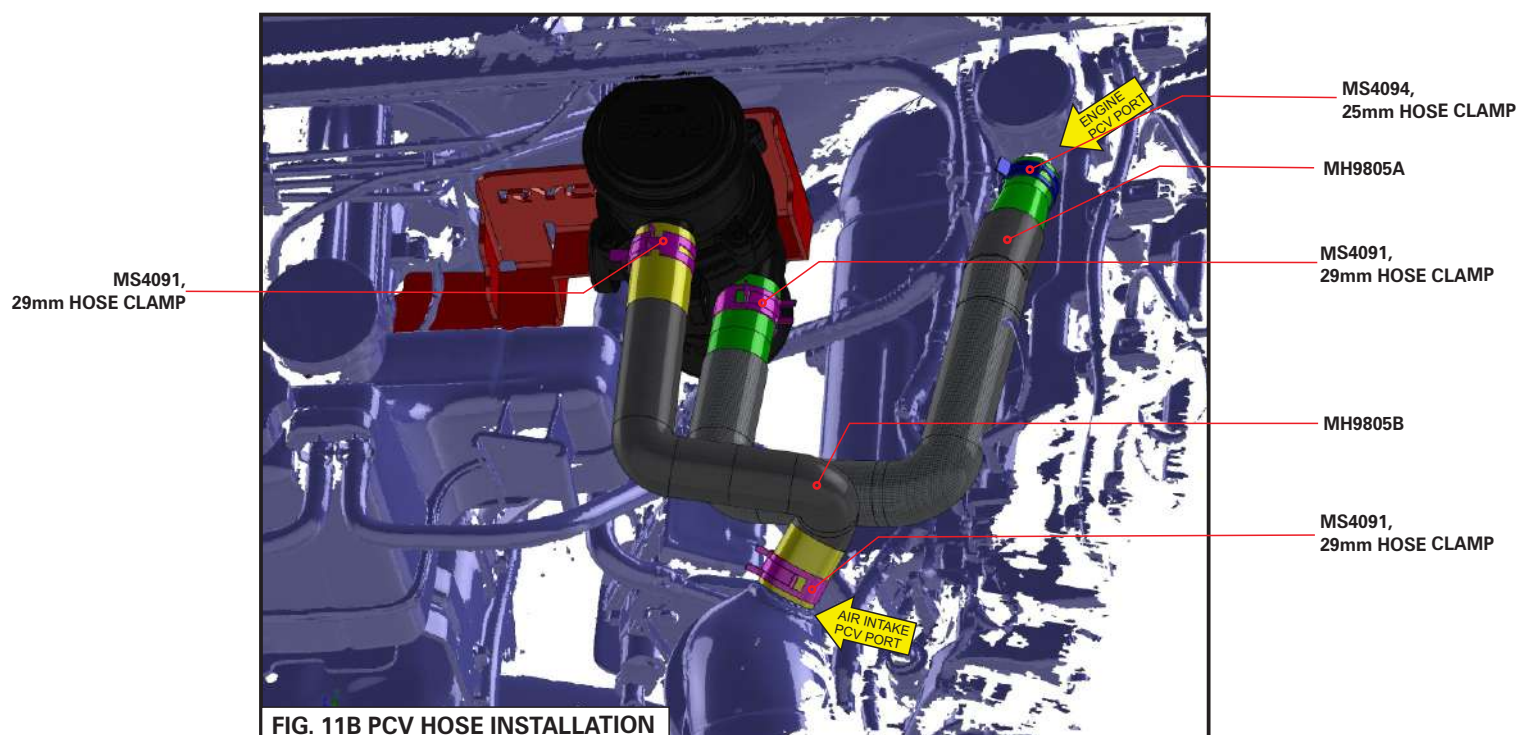

FIG. 11B PCV HOSE INSTALLATION
5. Starting with the MH9805A PCV hose, install the small diameter end on to the Engine PCV Port & tighten with the MS4094 hose clamp as shown in Fig. 11B.
6. Install the other end of the MH9805A PCV hose on to the lower, inlet port, of the RCC351 Catchcan and tighten with the MS4091 hose clamp as shown in Fig. 11B.
7. Install the larger diameter end of the MH9805B hose on to the upper, outlet port, of the RCC351 Catchcan and tighten with a MS4091 hose clamp. Install the other end of the MH9805B PCV hose on to the Air Intake PCV port and tighten with a MS4091 hose clamp as shown in Fig. 11B.